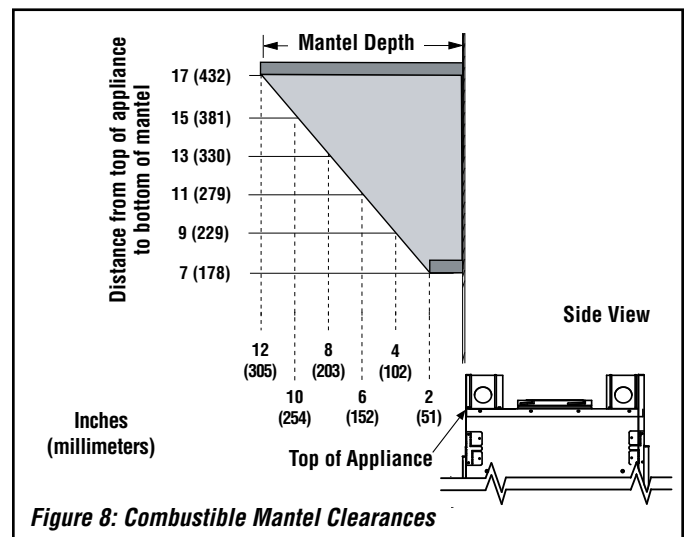

Figure 8: Combustible Mantel Clearances
- Vertical installation clearances to combustible mantels vary according to the depth of the mantel (see **Figure 8 on Page 11**).
Vertical installation clearances to combustible mantels vary according to the depth of the mantel. See **Figure 8**. Mantels constructed of non-combustible materials may be installed at any height above the appliance opening.